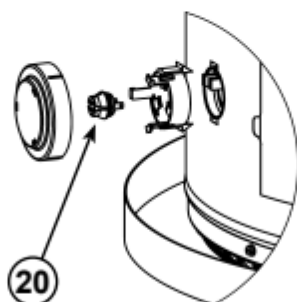

Figure 59.
- 20 Flammable Vapor Sensor (under cover) (see Figure 5) (see also Figure 59)